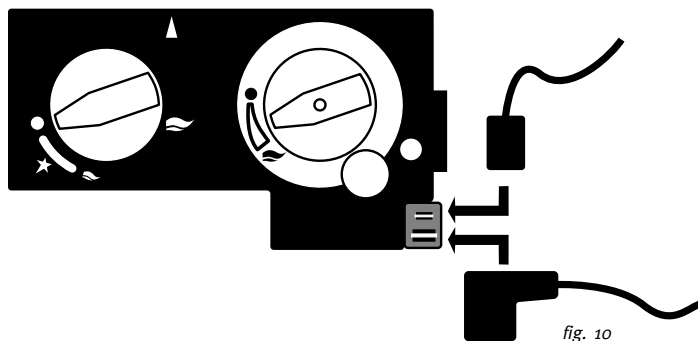

fig. 10
3. Connect the wires to the gas valve (see fig. 10).